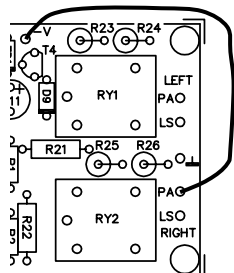

Fig. 3.0
- ❑ Connect the point PA of the right channel to the point -V (figure 3.0); the red LED 'ERROR' should now be lightening together with the yellow LED 'WAIT'.